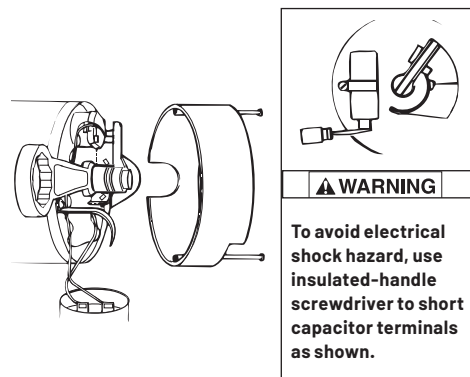

Figure 12: Hold Shaft
5. If the impeller must be replaced, loosen the two machine screws and remove motor canopy (Figure 12).
⚠ WARNING Capacitor voltage may be hazardous. To discharge capacitor, hold insulated handle screwdriver **BY THE HANDLE** and short capacitor terminals together (Figure 12). Do not touch metal screwdriver blade or capacitor terminals. If in doubt, consult a qualified electrician.
10. Hold motor shaft with 7/16" open end wrench on shaft flats and screw impeller onto shaft. **Be sure you do not touch capacitor terminals with body or any metal object.** Tightening impeller will automatically locate seal in correct position (Figure 12).